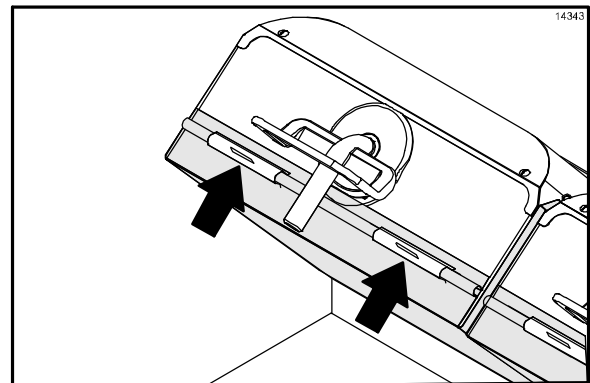

Figure 104
5. Re-install the release sheets. Secure the sheets with the locking clips and bars. (See Figure 104.)